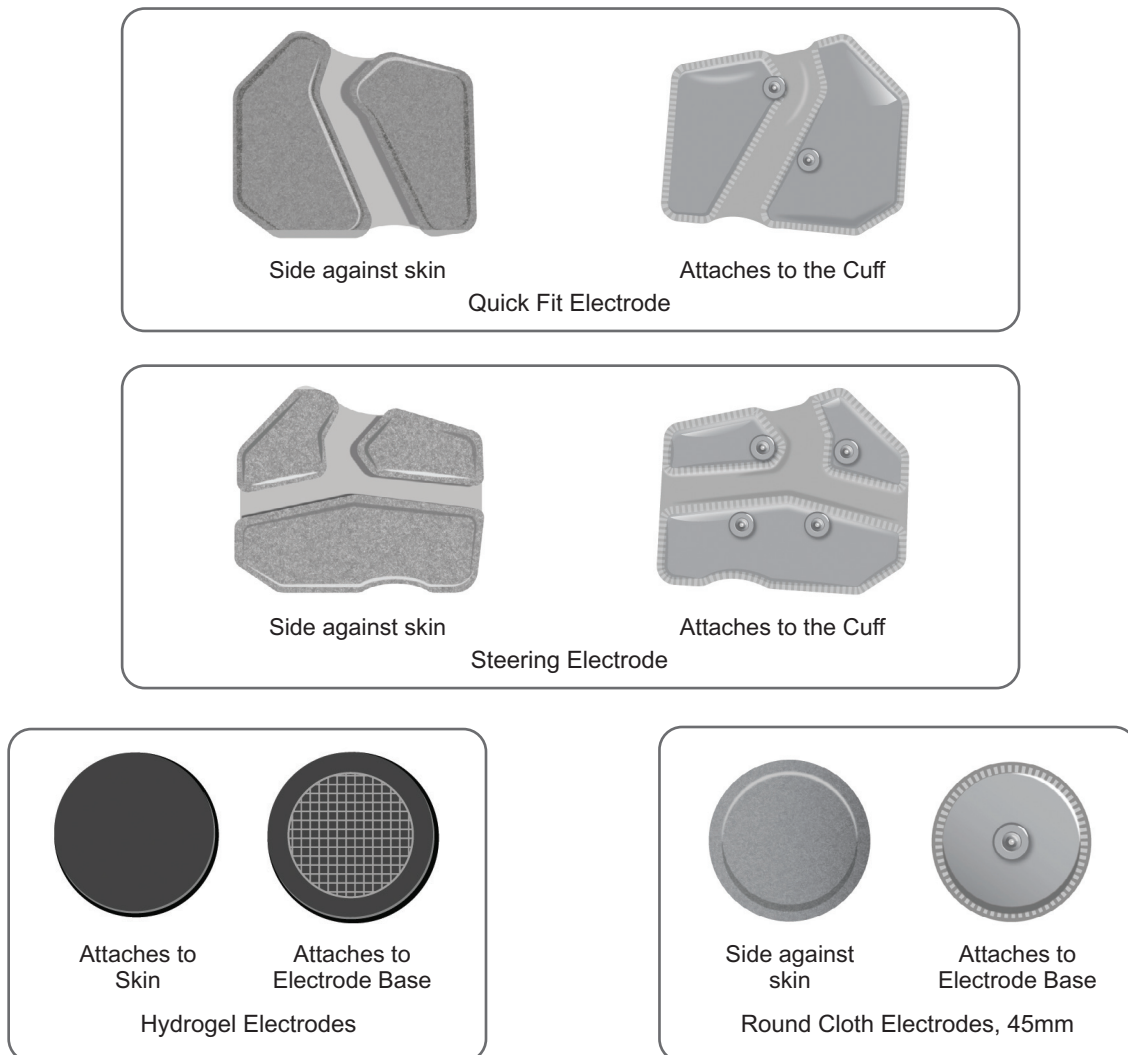

Figure 6-8: Lower Leg Cuff Electrode Options
**With the Lower Leg Cuff the following electrodes can be used: (See Figure 6-8)**